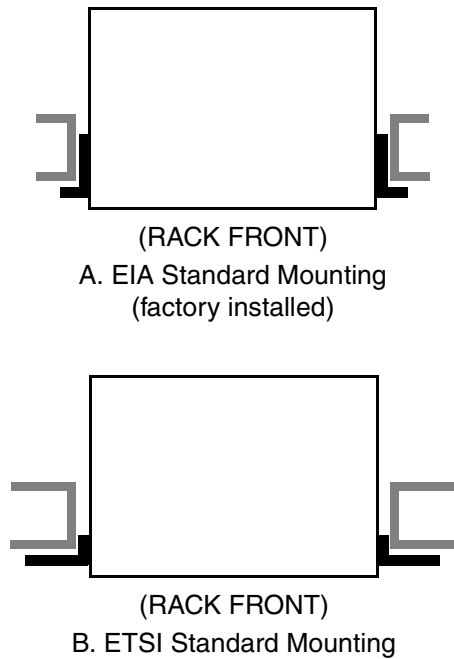

Figure 2. Mounting Ear Positions (Top View)
1. If the position of the mounting ears is appropriate, skip this step. Remove and attach the mounting ears on the master and expansion shelf assemblies as appropriate (Figure 2).